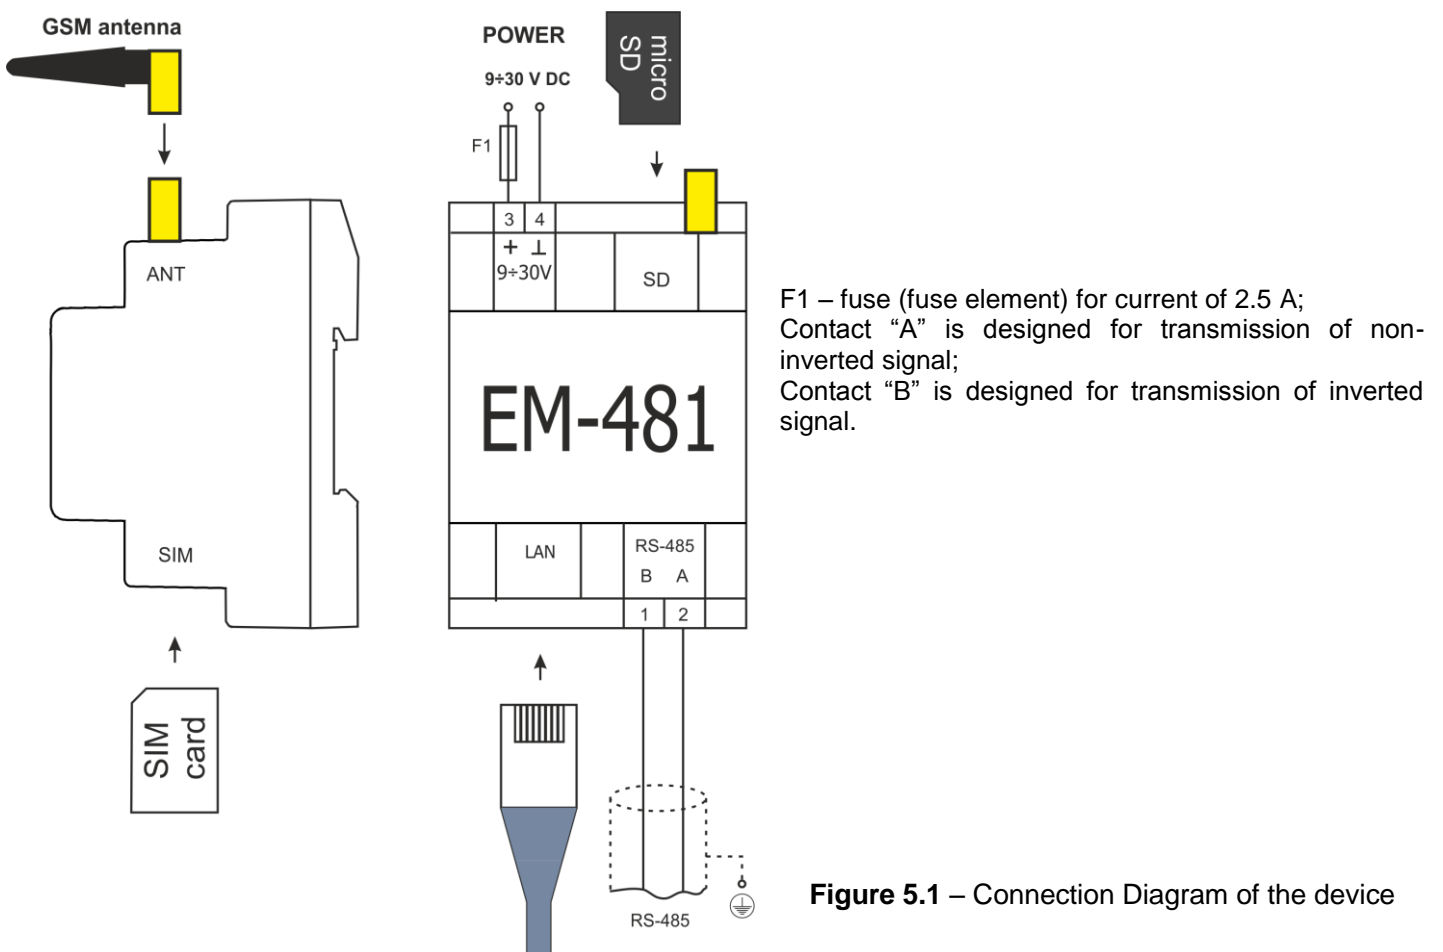

Figure 5.1 – Connection Diagram of the device
5.1.3.1. Connect the device as per Fig. 5.1.